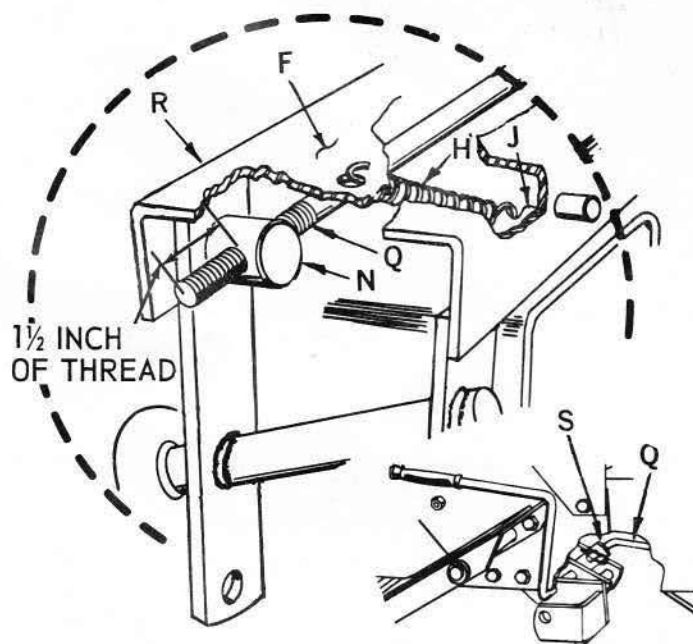

FIG. 12
18. Remove the two retainer springs (L) and engine belt guard (M). Screw, bushing and nut were shipped in place with tractor.
19. Remove nut, lockwasher, and belt guard (K), from front of idler shaft assembly (F). Place belt on idler sheaves (P) and on engine pulley (O), as shown. NOTE: See insert for proper way of installing belts on idler pulleys (P). Backside (outside) of belt must be placed in flat (outside) idler. Belt must be placed in largest groove on engine pulley (O).
20. Refer to Fig. 12. Assemble adjusting pin (N), to threaded end of belt tightener link (Q). Pin will be found in plastic bag.
21. See Fig. 12. Install belt tightener link (Q) thru opening in idler shaft assembly (F). Attach bent end of link (Q) to rear end of belt tightener lever arm (S). Secure with smallest retainer spring. Spring retainers will be found in plastic bag.
22. Refer to Fig. 12. Attach adjusting pin (N), to idler frame (R) with largest spring retainer. Refer to "Belt Adjustment", page 8.
5. Refer to Fig. 12. Remove spring retainer from adjusting pin (N). Unhook spring (H), from idler frame (R), and front axle bracket (J), and remove idler shaft assembly (F), from front of tractor and place on ground between front wheels.